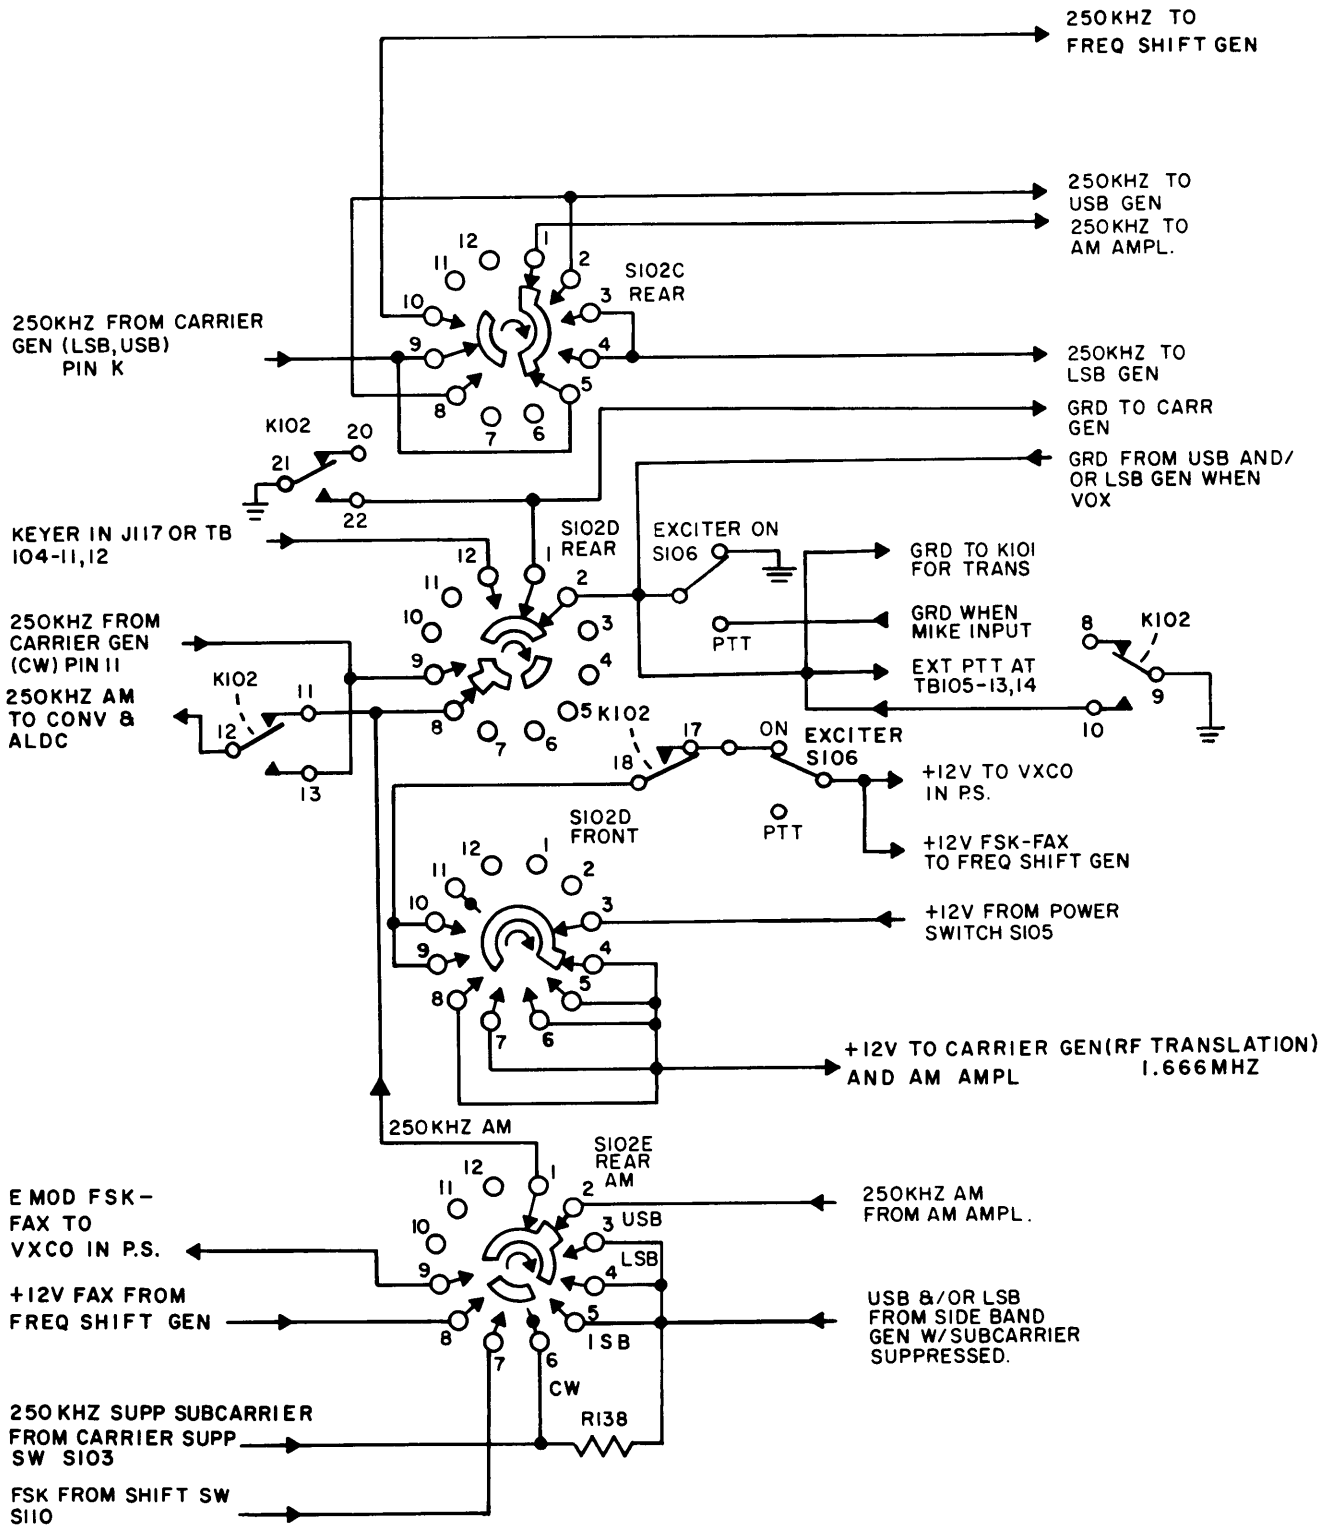

Figure 4-3. CW, FSK, and FAX Mode Switching, Simplified Schematic Diagram
(2) The remaining decks of MODE switch S102 (C rear, D front and E rear) perform independent functions such as 250 kHz subcarrier and AM distribution and reinsertion, and CW, FSK and FAX selection. (See figure 4-3.) The 250 kHz subcarrier output from carrier generator Z104 (J105 pin 11) is applied to S102C (rear) at contacts 9 and 5. With the MODE switch in the AM position, the subcarrier is channeled to AM amplifier Z108; in the USB, LSB and ISB positions, the 250 kHz subcarrier is applied to either the respective sideband generator, Z105 or Z109, or to both sideband generators simultaneously. Deck S102D (front) of the MODE switch distributes +12 vdc operating potential to carrier generator Z104 via J104 pins 6, 8 and 14, and AM amplifier Z108 in the AM, USB, LSB, ISB and CW positions via J108 pin 9. (See figure 7-1.) In the FSK and FAX positions, +12 vdc is routed through normally closed contacts 18/17 of external control relay K102 and the ON position of EXCITER switch S106 to frequency shift generator Z107 via J107 pin J and the variable crystal-controlled oscillator (VXCO) J301 pin K, in the power supply assembly. The amplitude-modulated 250 kHz output at J108 pin E of AM amplifier Z108 is supplied to the AM position of S102E (rear) and is coupled through normally closed contacts 11/12 of external control relay K102 to converter and ALDC circuit Z103. In the USB, LSB and ISB positions of S102E, sideband audio intelligence, with a suppressed 250 kHz subcarrier, is supplied from either or both sideband generators to contacts 3, 4 and 5. This SSSC input is added to the 250 kHz subcarrier signal from CARR SUPP switch S103 pin 1 through isolation resistor R138. The amount of subcarrier injection depends on the position of S103 and may consist of no subcarrier injection (0), full injection (FULL), continuously variable injection (VAR), or injection at 6 db or 26 db below sideband amplitude. When subcarrier injection is desired, the resultant USB and/or LSB audio intelligence is accompanied by a 250 kHz pilot carrier and is supplied to converter and ALDC circuit Z103 at J103 pin E.